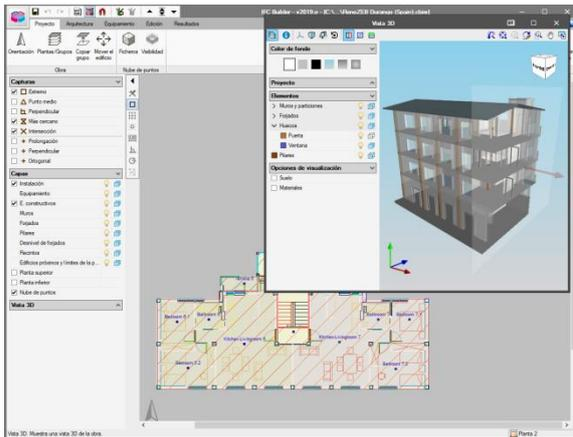

Figure 4 IFC Builder
| Figure 4 IFC Builder | 7 |
- **IFC Builder:** IFC Builder (figure 4) is a free CYPE application designed for the creation and maintenance of IFC building models. Simple to use and accessible, IFC Builder is integrated in the Open BIM workflow via the import and export of IFC models.